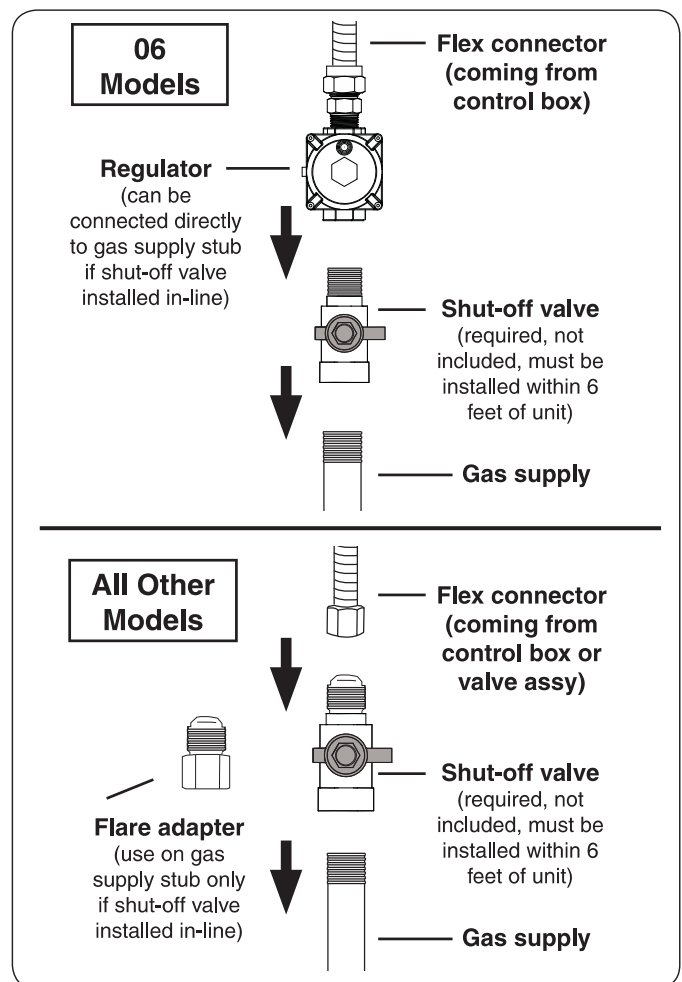

Fig. 22-2 Connecting to a gas line
- Connect the regulator (on end of flex connector) to the shut-off valve OR gas supply using a pipe joint compound resistant to all gasses (see Fig. 22-2). Tighten securely.
- Connect the flex connector to the shut-off valve (see Fig. 22-2). Tighten securely.
- Install the supplied flare adapter to the gas supply using a pipe joint compound resistant to all gasses (see Fig. 22-2). Tighten securely.
- Connect the flex connector to the flare adapter (see Fig. 22-2). Tighten securely.